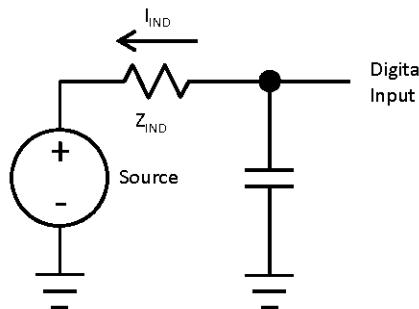

Figure 2. 5 V Tolerant Input I_{IND} Parameter
5. Examples calculated using V_{IL} relation, V_{DD} , and max I_{IND} : $Z_{IND} = V_{IL}/I_{IND}$. This is the impedance needed to pull a high signal to a level below V_{IL} due to leakage when $V_{IL} < V_{IN} < V_{DD}$. These examples assume signal source low = 0 V. See Figure 2.